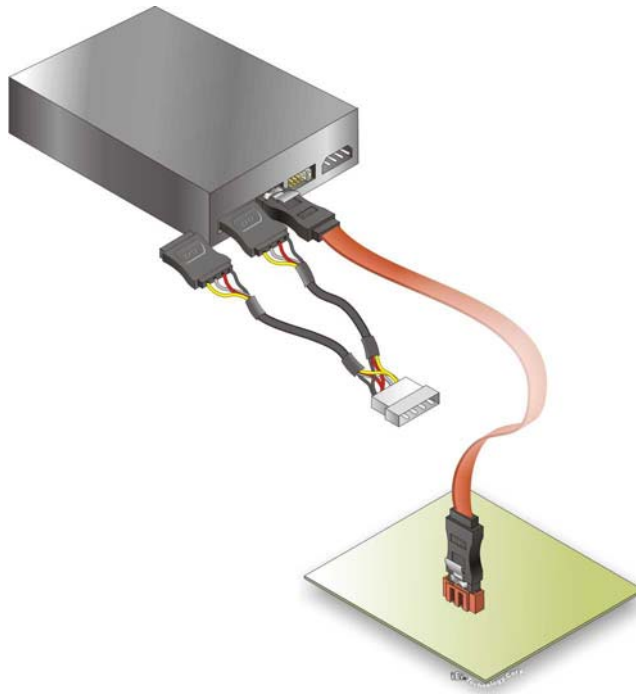

Figure 4-12: SATA Power Drive Connection
- Step 3:** Connect the cable to the SATA disk. Connect the connector on the other end of the cable to the connector at the back of the SATA drive. See Figure 4-12.
- Step 4:** Connect the SATA power cable. Connect the SATA power connector to the back of the SATA drive. See Figure 4-12.